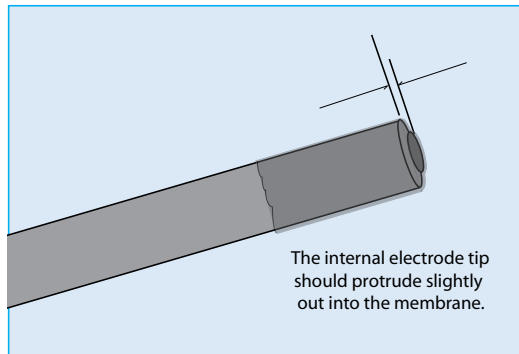

Fig. 5—Membrane placement. *The internal electrode tip should protrude slightly out into the membrane.*
8. Slowly and smoothly insert the electrode into the sleeve, and screw the locking cap into the handle. The electrode should be observed to press gently against the membrane (**Fig. 5**).